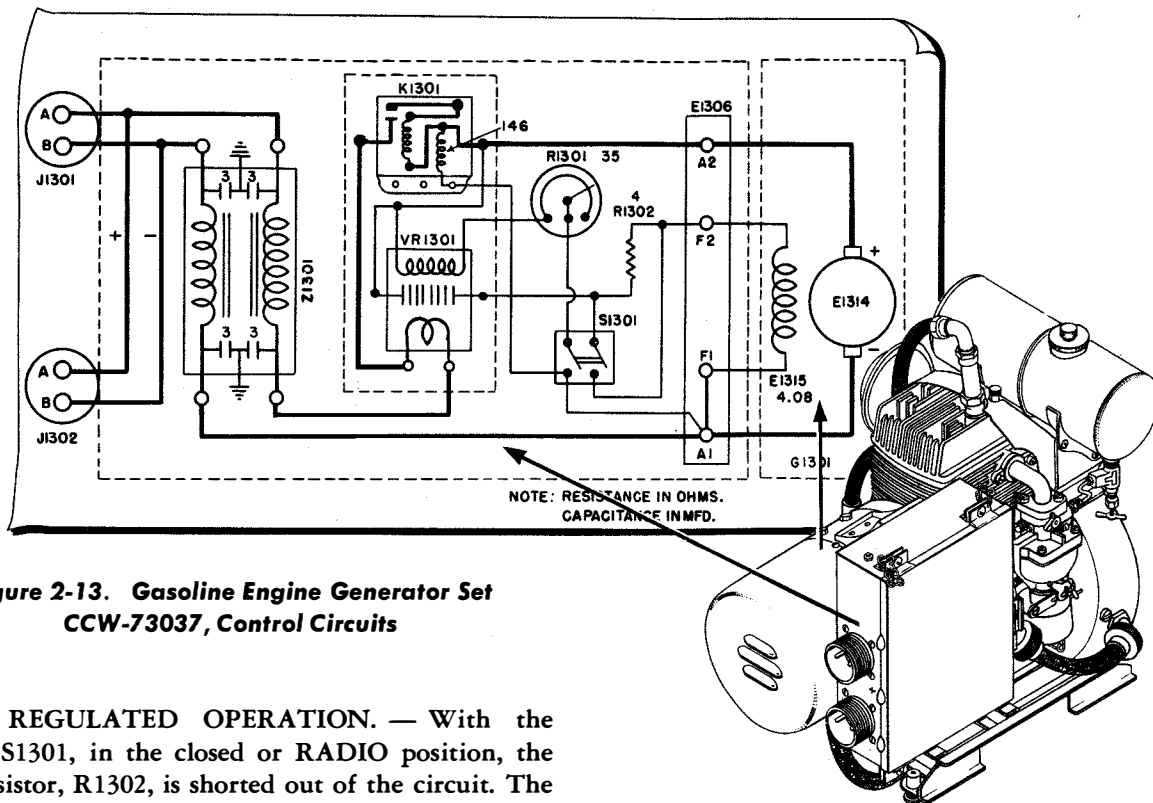

Figure 2-13. Gasoline Engine Generator Set
a. METHODS OF OPERATION.—The generator set is designed to provide unregulated output for constant-potential battery charging or regulated-voltage output for the operation of radio equipment. The change-over from one form of output to the other is accomplished by means of a toggle switch, S1301, mounted on the side of the control box of the generator set. The illustration, Figure 2-13, shows the schematic diagram of the equipment.
(1) UNREGULATED OPERATION.—With the switch, S1301, in the open or BATTERY position, as shown in Figure 2-13, the generator operates as a straight shunt-wound dynamo. The shunt field of the generator, E1315, is energized through the fixed resistor, R1302, and the carbon pile of the voltage regulator, VR1301, which does not function in this type of service. The unregulated generator output is adequate for constant potential charging of 12-volt storage batteries.